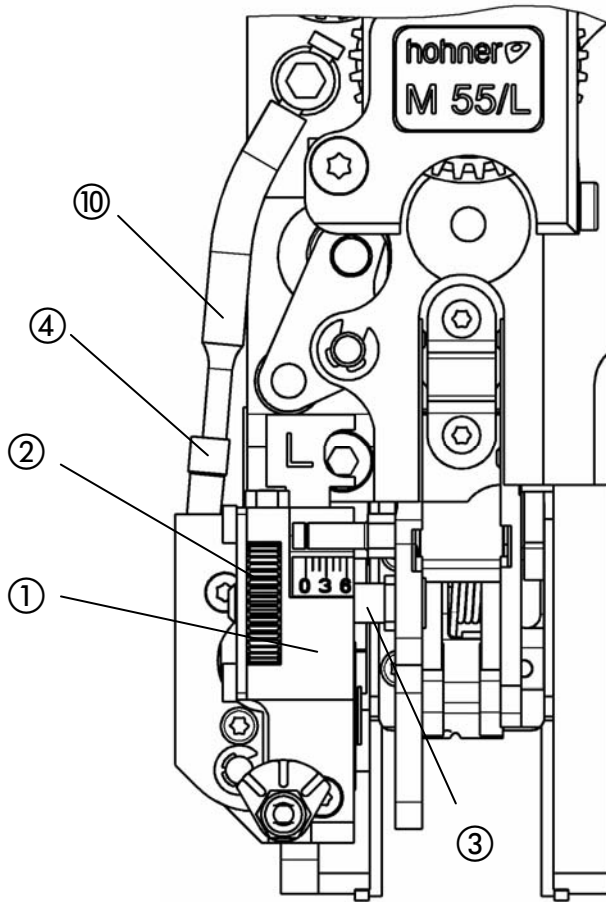

Fig. 23
- Fig. 23 -
- To replace the knife, move the knife box ① completely away from the guide ③ by turning the knurling wheel ② and remove from the stitching head.
- Replace knife slider ⑤ in the knife box ① (arrow B), compressing the pressure spring of the knife slider with a screwdriver, and pushing it into the knife box. Make sure that the pressure spring is not bent.
- Place knife box ① on the guide ③.
- Attach flexible wire feed to drill hole ④ in knife box.